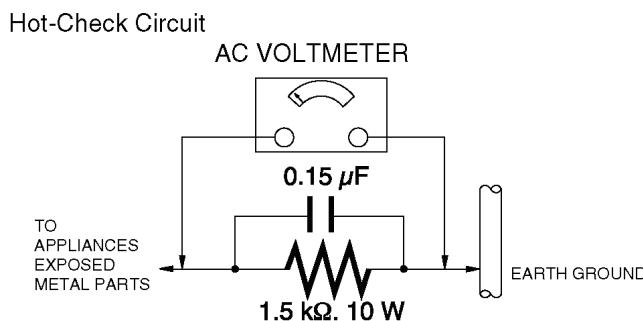

Figure. 1
## 1.3. Leakage Current Hot Check (See Figure. 1)
2. Connect a  $1.5\text{ k}\Omega$ ,  $10\text{ W}$  resistor, in parallel with a  $0.15\text{ }\mu\text{F}$  capacitor, between each exposed metallic part on the set and a good earth ground, as shown in Figure. 1.